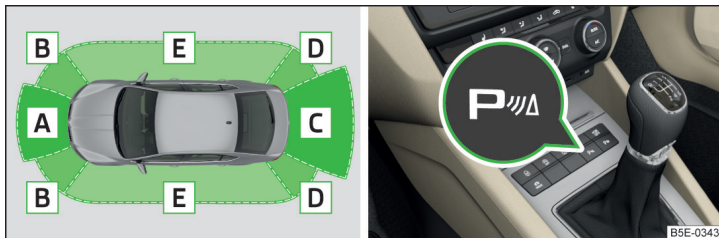

Fig. 135 Sampled areas and range of the sensors / system button (Version 2, 3)
Depending on the equipment, the following system versions can exist » Fig. 135.
On vehicles equipped with a factory-fitted towing device, only the areas A and B » Fig. 135 of the system are active when operating a trailer, there is no road display.
The system is automatically activated by selecting **reverse gear** or pressing the symbol button  » Fig. 135 on page 138 . The symbol  lights up in the button; activation is confirmed by a brief acoustic signal.
- The display can be interrupted by pressing the symbol key **P** » Fig. 135 on page 138.